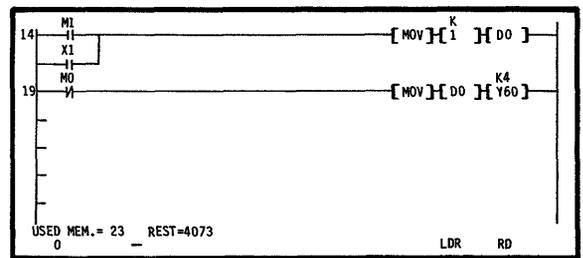

Fig. 7.26
- **GO** The screen displays a circuit block which has a step number preceding the lowest step number displayed on the screen as shown in Fig. 7.26.